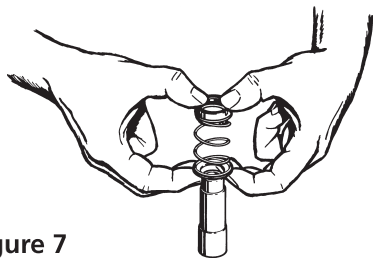

Figure 7
7. Remove the rotating element (Ref. No. 6A) from the sleeve. Refer to Figure 7. The element normally adheres tightly to the sleeve and some force may be necessary to remove it. This is common and if care is taken, the element can be reassembled and reused. **It is recommended that a new rotating element be used for reassembly.** **DO NOT** attempt to remove the seal using a screwdriver or other sharp object. Extensive damage to the shaft, sleeve, or element could occur.